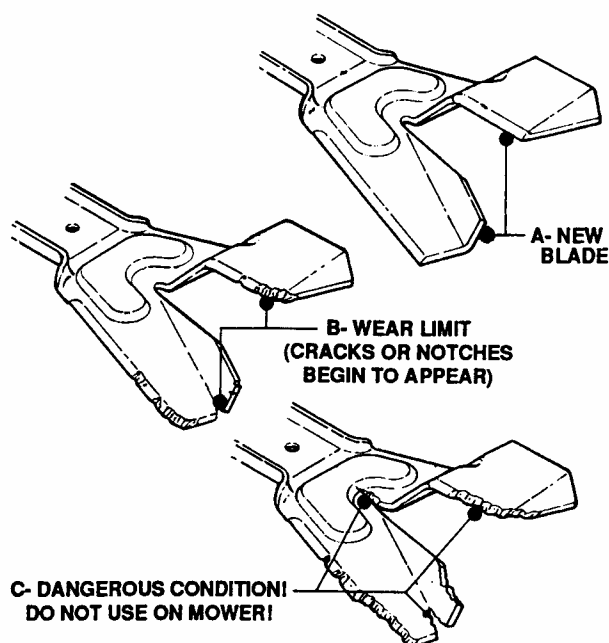

FIGURE 57
The Ninja™ recycling blade requires more frequent service intervals than standard blades. Check the Ninja™ recycling blade for excessive wear or damage after every use. See Figure 57.
Inspect the Ninja™ blade for excessive wear or damage. See Figure 57 for Ninja™ blade wear limits.
*Never use a blade that shows signs of excessive wear or damage. Refer to Figure 57 for Ninja™ blade wear limits.*